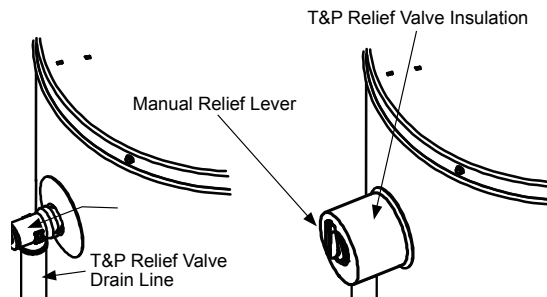

FIGURE 25.
1. Locate the temperature and pressure relief valve on the water heater (also known as a T&P relief valve). See Figure 25.
3. Spread the slit open and fit the insulation over the T&P relief valve. See Figure 25. Apply gentle pressure to the insulation to ensure that it is fully seated on the T&P Relief Valve. Once seated, secure the insulation with duct tape. **IMPORTANT:** The insulation or tape should not block or cover the T&P relief valve drain opening. Also, the insulation or tape should not block or hinder access to the manual relief lever (Figure 25).